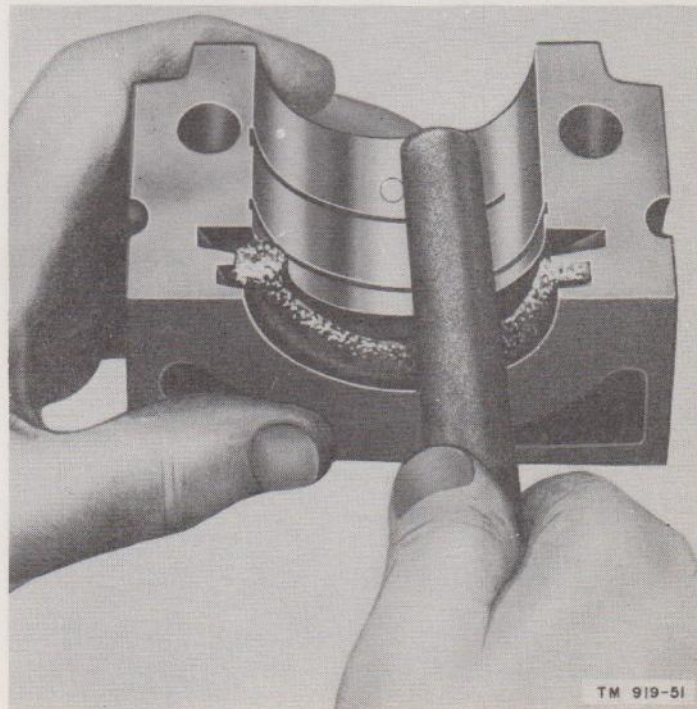
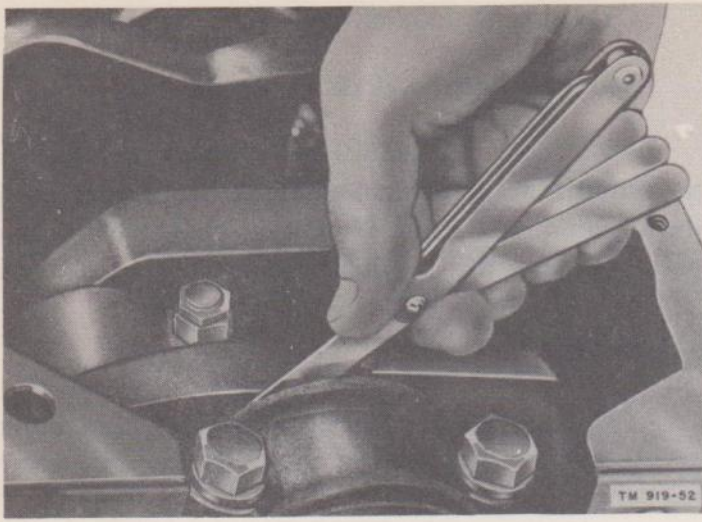

Figure 51. Installing rear main bearing packing.
Figure 52. Checking crankshaft end play.
(1) Slip the shim (66) and the thrust washer (65) onto the crankshaft (67). Be sure the side of the thrust washer with the inner beveled edge faces the front bearing. Insert the key (64) in the crankshaft groove and press the gear (63) onto the shaft.
(2) Place the upper main bearings (36, 39, and 42) over the dowels in the block. If necessary, install new packing in the block. The same procedure should be followed when installing this packing as when installing packing in the rear main bearing cap (subparagraph (5) below).
(3) Apply clean oil (OE) to the main bearing crankshaft journals. Then install the crankshaft in the block.
(4) Install the lower main bearings (35, 38, and 41) on the crankshaft.
(5) Install new packing in the rear main bearing cap as follows: Insert the packing in the groove of the cap. Roll the packing into the groove with a round piece of wood or steel as shown in figure 51. Start at one end and roll the packing to the center of the groove. Then start from the other end and again roll towards the center. Be sure the packing is pressed firmly into the bottom of the groove. The small portion of packing which protrudes above the surface of the cap at each end must be cut off flush.
(6) Check the clearance between the bearing and crankshaft journal as follows: Place a .002-inch shim between the journal and the bearing. Tighten the cap screws to the recommended torque of 65 to 70 pounds. A slight drag of the shaft, when turned by hand, proves the clearance (.002 inch to .0025 inch) is correct. Be sure to remove the shim.
(7) Reinstall the bearings and caps. Place liquid gasket sealer on the sides and face of the rear main bearing cap.
(8) Check the end play of the crankshaft with a feeler gage as shown in figure 52. Clearance should be between .004 inch and .006 inch. To adjust the end play, remove the crankshaft gear and thrust washer and insert shims as required between the thrust washer and the face of the front main bearing.